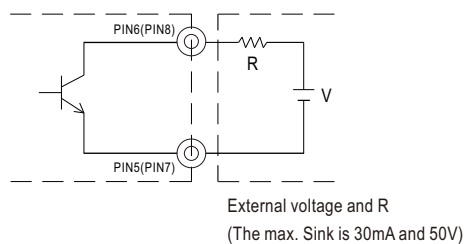

Fig 2.2 Internal circuit of AC OK (Battery Low), via TTL open collector
- (1) Alarm signal is sent out through "AC OK " & " Battery Low " pins. (TTL open collector output is provided for standard model, and relay contact output is provided as optional model.)
- (2) An external voltage source is required for this function. The maximum applied voltage is 50V and the maximum sink current is 30mA. Please refer to Fig 2.2.
- (3) Table2.1 explains the alarm function built in the power supply